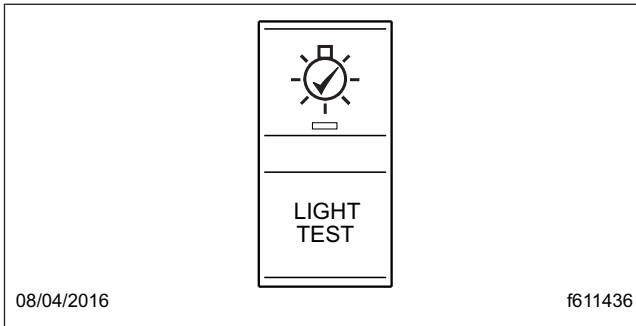

Fig. 11.7, Pretrip Light Test Switch
11. Check the operation of all exterior lamps manually or, if equipped, by using the LIGHT TEST switch on the dash. See Fig. 11.7.